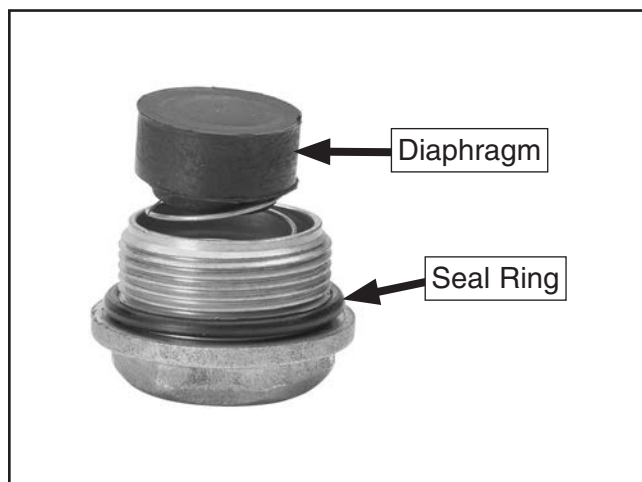

Figure 29. Check valve components.
8. Inspect seal ring and diaphragm (see **Figure 29**) for damage and dirt.